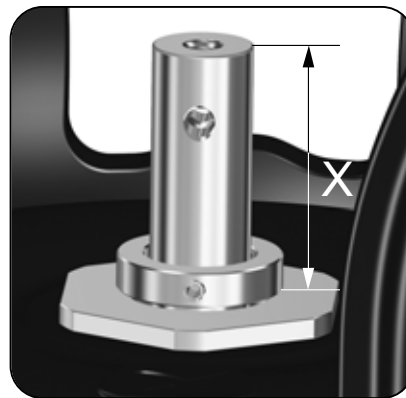

Fig. 6 Height measurement X
9. Attach approved lifting equipment to the motor stool (1a) and lift the motor stool (1a) onto the pump head cover (2).
10. Lubricate the threads of the staybolts (26).
11. Install the washers (66a) and nuts (36) and cross-tighten the nuts (36) to the specified torque. See sections 4.1 *Torques* and 4.2 *Lubricants*.
13. Install the shaft seal (105) in the cover (2). See section 4.1 *Torques*.
14. Check that the height X is maximum 71 mm. See fig. 6.